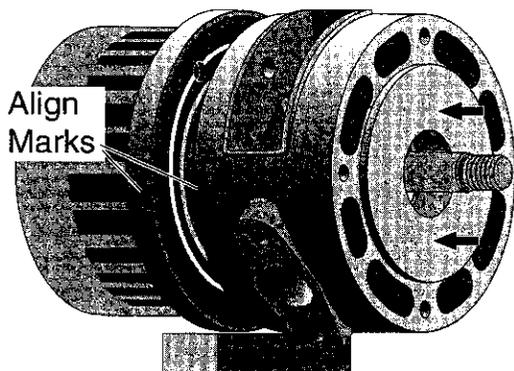

Figure 27
- Carefully slide the adapter over the shaft (see Figure 27). Do not damage the shaft sealing surface; it is highly polished and any slight scratches or nicks will ruin it.